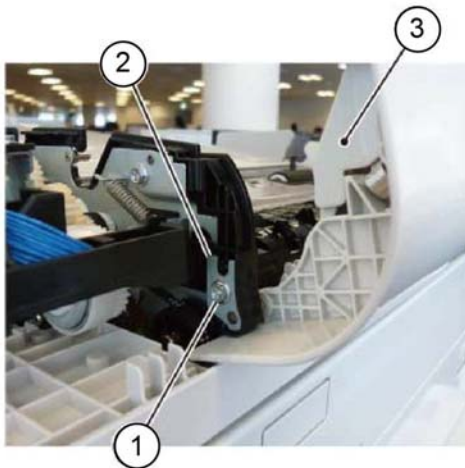

Figure 2 Upper feeder assembly removal
4. Remove the upper feeder assembly, Figure 2:
- a. Remove the screw (1).
- b. Remove the rear hinge bracket (2).
- c. Remove the upper feeder assembly (3).